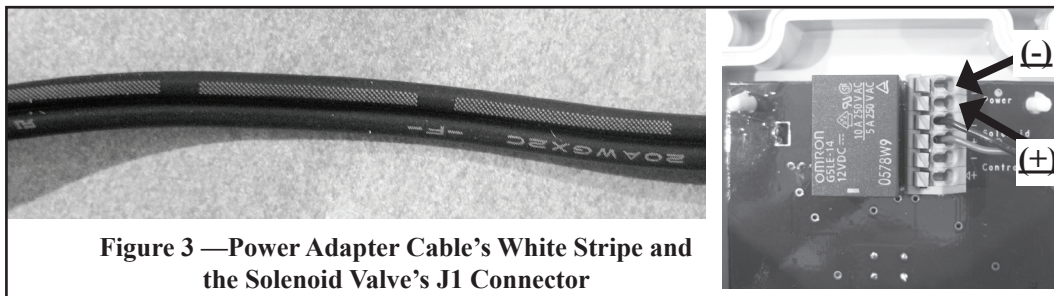

Figure 3 —Power Adapter Cable's White Stripe and the Solenoid Valve's J1 Connector
3. Inspect the wall adapter's cable and locate the conductor that has the white stripes on it (see Figure 3).
4. Following the connection instructions in Basic Connection Instructions/Wire Connection above, connect the power cable conductor WITH the white stripes to pin six (6), the side labeled with a MINUS sign (-) (see Figure 3).
5. Following the connection instructions in Basic Connection Instructions/Wire Connection above, connect the other power cable conductor (WITHOUT the white stripes) to pin five (5), the side labeled with a PLUS sign (+) (see Figure 3).